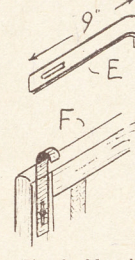

Fig. 4—Metal hangers
To support the bed rest, a pair of metal fitments will be needed. These can be bent up from  $\frac{1}{2}$ in. by  $\frac{3}{4}$ in. metal bar to the shape seen at (E) in Fig. 4. Allowing a little extra for the bend at the top, a total length of 11ins. for each will be about enough. The curved top parts should fit over the head of the bed, as seen in the general view of the completed article.